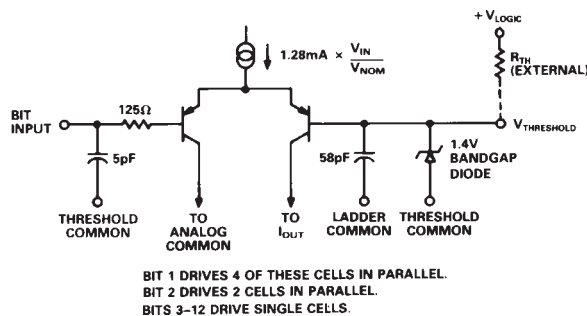

Figure 6. Equivalent Digital Input
(see Figure 6). The digital bit inputs operate with small input currents to easily interface to unbuffered CMOS logic. The digital input signals to the DAC should be isolated from the analog input and output as much as possible. To minimize undershoot, ringing, and digital feedthrough noise, the interconnect distance to the DAC inputs should be kept as short as possible. Termination resistors may improve performance if the digital lines become too long. The digital inputs should be free from large glitches and ringing and have 10% to 90% rise and fall times on the order of 5 ns.
**THCOM** – is the ground point for the bandgap diode that generates the threshold voltage. The current coming out of this node is the same as that flowing into VTH plus a code dependent number of base currents (see Figure 6). It is possible to introduce an offset between THCOM and the system common, thereby offsetting the effective logic threshold and positive output compliance voltage.
**VTH** – as indicated earlier, if given sufficient positive bias current, this voltage will be 1.4 V above THCOM. The necessary bias current can readily be provided by a suitable resistor to any positive supply. As Figure 6 suggests, this node is directly coupled to the DAC output through several base to collector capacitances and hence, should be carefully decoupled to the analog ground.